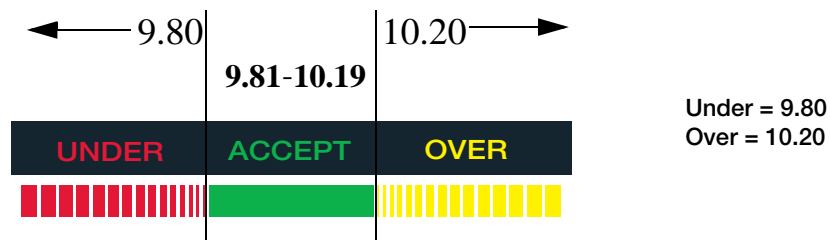

Figure 5-2. Example of Accept Band Determined by Under/Over Settings in Range Mode.
7. The *Accept* band is set as the gap between the *over* and *under* settings. See Figure 5-2 for an example.